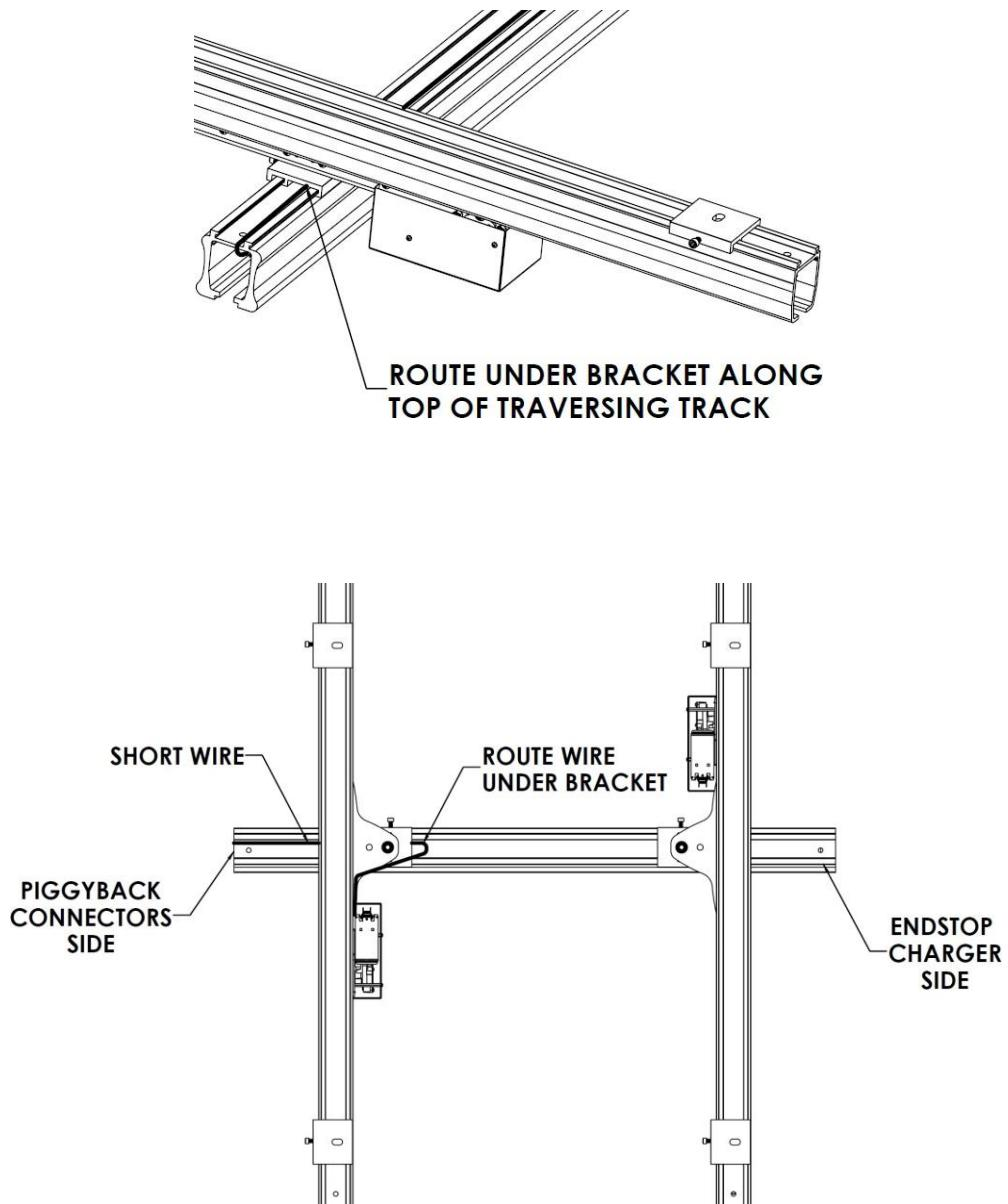

Figure 61: *Short Wire Placement*
8. On the traversing (X/Y) track, route the short wire across the top of the traversing track, beneath the gantry bracket (Figure 61).